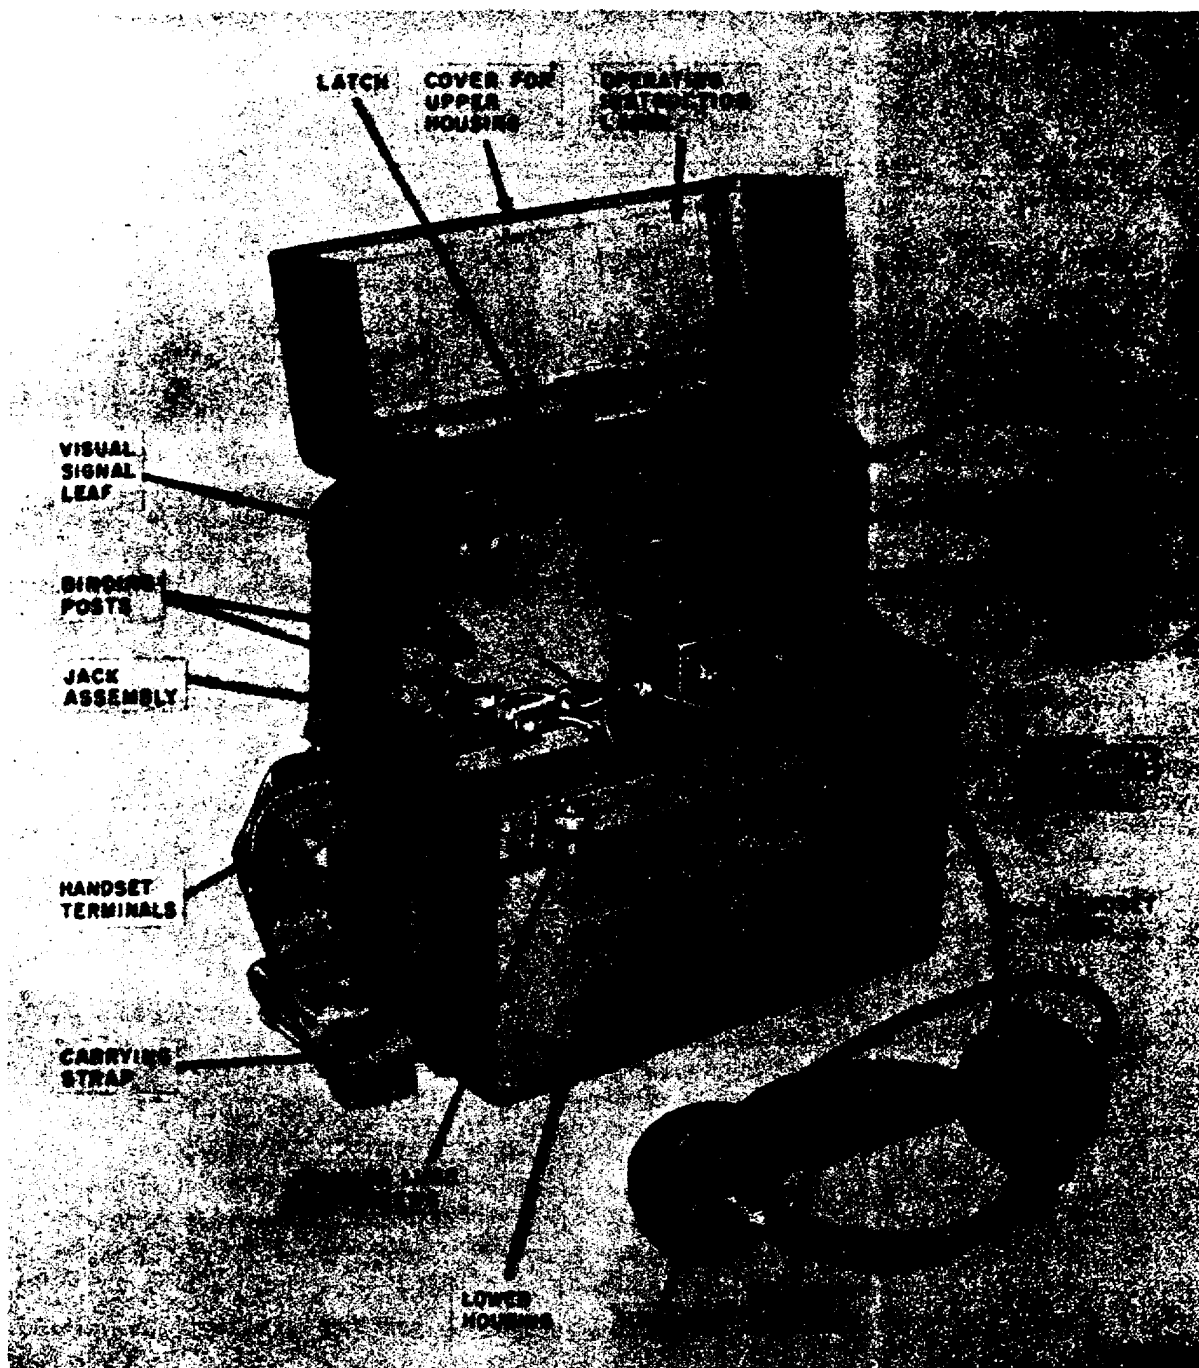

Figure 2. Telephone TP-9, upper housing open.
6. Description (fig. 2)
a. Before the telephones can be installed for use, batteries (par. 7) must be installed and connected as outlined in (1) through (10) below.
- (1) Unfasten the four screws which hold the upper and lower housings together (fig. 2). Turn the equipment upside down and separate the housings.
Caution: When not using the telephone, lock the cradle switch lever (fig. 2) in the down position or current will be drawn from the batteries. The cradle switch lever may be locked by pushing it down and moving the latch located beneath it to the left.
- (1) Remove the handset from the cradle (fig. 2).
- (2) Turn the GAIN control to the maximum clockwise position.
- (3) Release the cradle switch lever by pushing the latch to the right. The cradle switch lever should rise.
- (4) Place the telephone receiver to the ear and tap the side of the housing. Microphonic noise should be heard in the receiver. Press the handset switch and blow into the transmitter. Side tone should be heard in the receiver.
To use the telephone at the end of a line, strip the insulation from the end of the line wires and connect the line wires to the binding posts (fig. 2). To use the telephone at an intermediate
a. Remove the handset from the cradle (fig. 2).